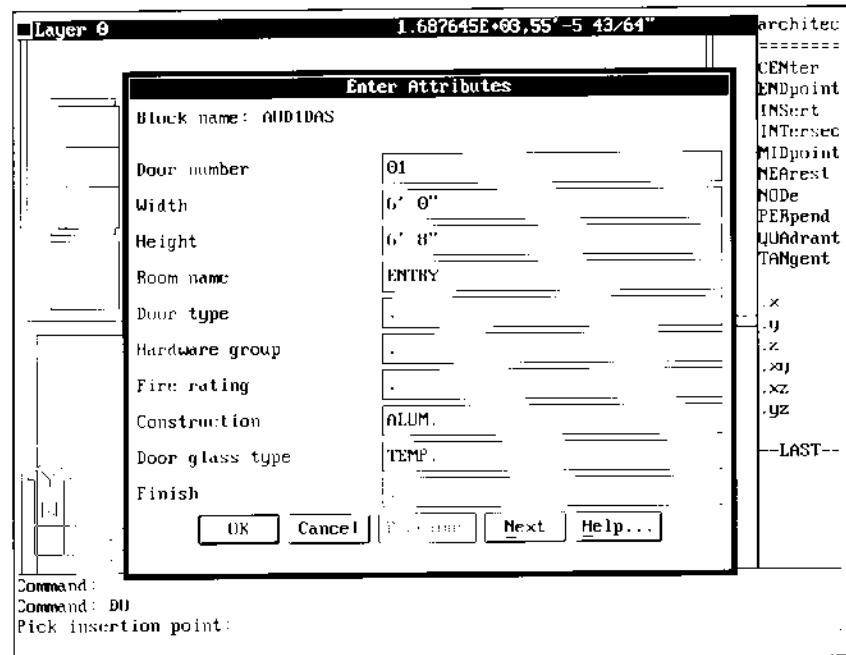

Figure 9.
6. Add the Door number and Room name as shown below and in Figure 9.